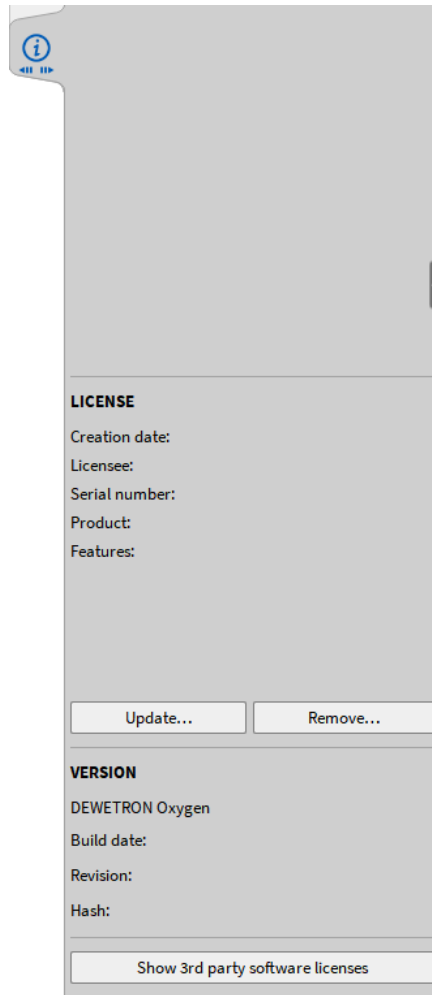

Figure 1-9: *System Information* menu
- After installing a license, the license information can be found in the *System Information* menu (see Figure 1-9)